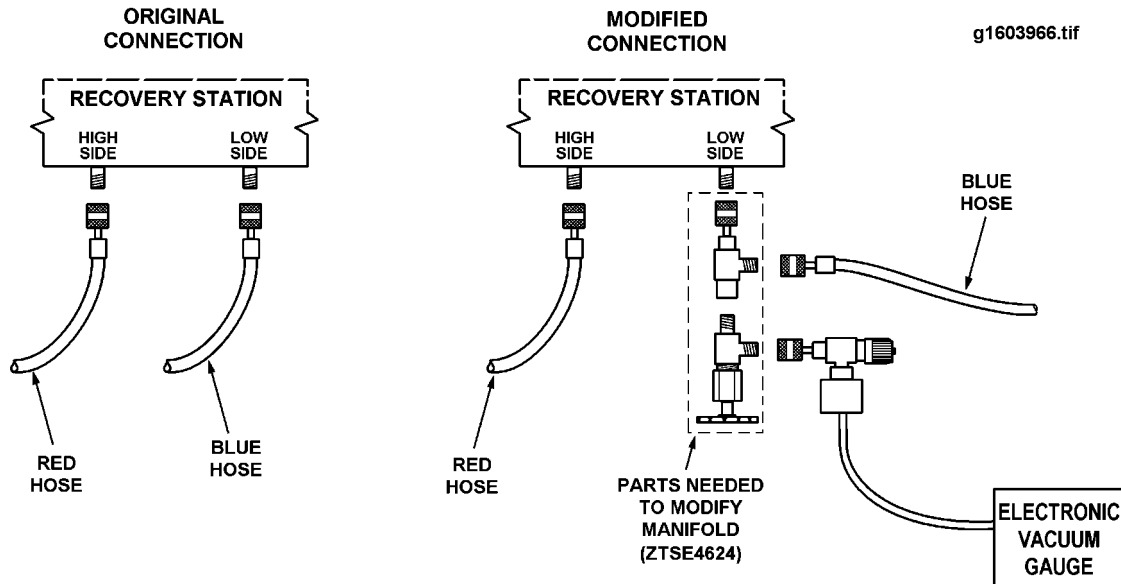

Figure 66 Connection of Electronic Vacuum Gauge
3. Connect the electronic vacuum gauge to the recovery station, at the vacuum manifold, using a valve and 'T' fittings (refer to Figure 66).